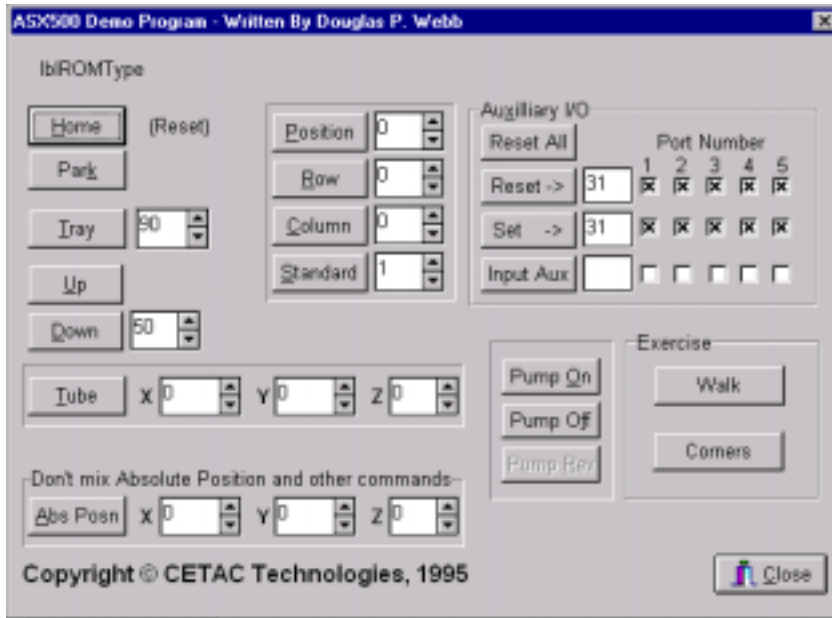

Figure 1-5
15. Now open the program that you downloaded off the website. It will open a **tcomm debug** window, then soon after will open the main window as shown in figure 1-5.